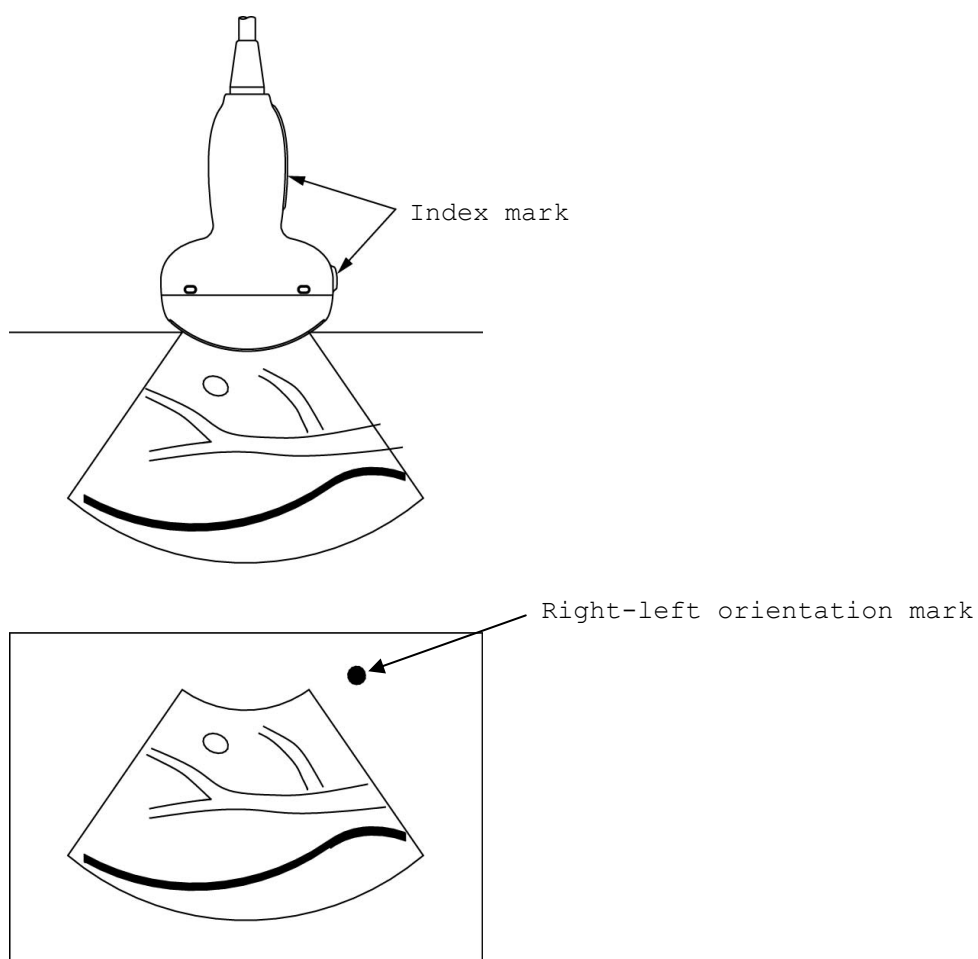

Fig. 2 Relationship between the directions of the probe and the Right-left orientation mark
- 3) Confirm the direction of the probe. The relationship between the direction of the probe and image is shown in Fig. 2.